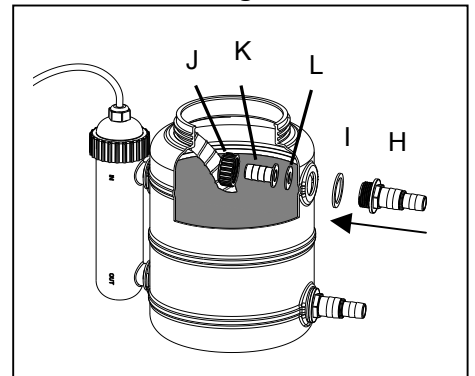

Fig. 5
- Connect the small adapter to the adapter using the locking ring. Be sure to place the gasket between adapter and tank, place the small gasket between the small adapter and adapter. Fig. 5